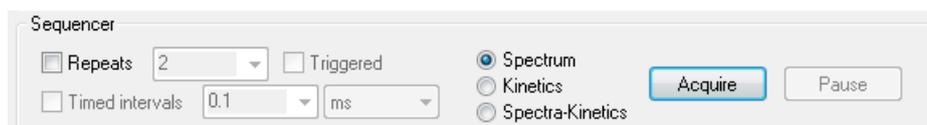

Figure 2.47: the Sequencer panel for steady state fluorescence excitation
3) Now ensure that **Spectrum** mode is selected on the **Sequencer** panel (Figure 2.47).